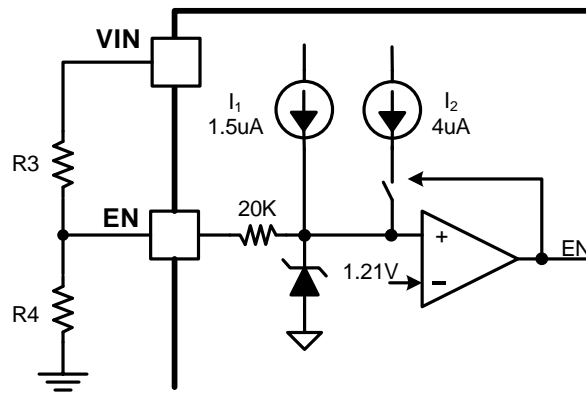

Figure 12. Adjustable VIN UVLO
An internal 1.5uA pull up current source connected from internal LDO power rail to EN pin guarantees that floating EN pin automatically enables the device. For the application requiring higher VIN UVLO voltage than the default setup, there is a 4uA hysteresis pull up current source on EN pin which configures the VIN UVLO voltage with an off-chip resistor divider R3 and R4, shown in Figure 12. The resistor divider R3 and R4 are calculated by equation (1) and (2).